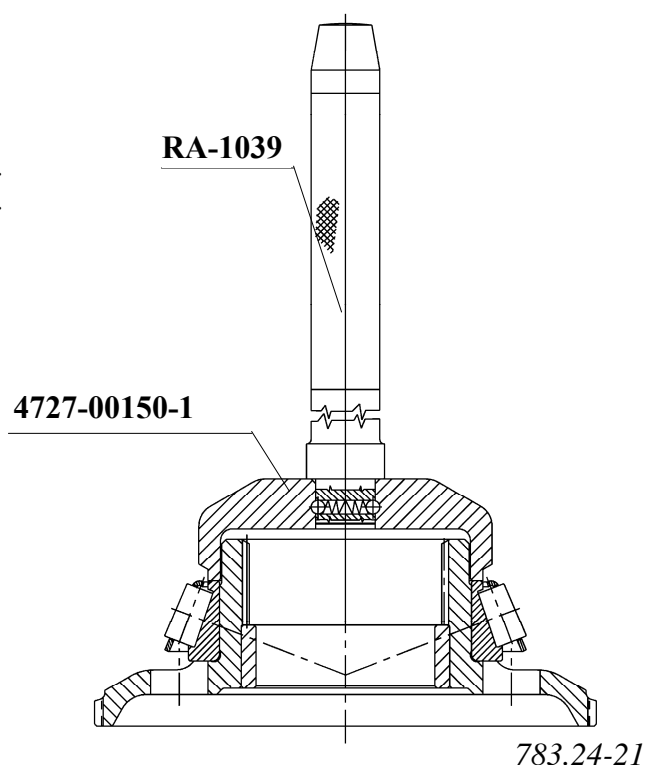

Fig. 1.: DRIVING THE TAPER ROLLER BEARING CONE TO THE RIM HUB
As shown in the figure drive the cone of the taper roller bearing (43) to the rim hub supplied together with centering ring (37) (see Fig. 1.).